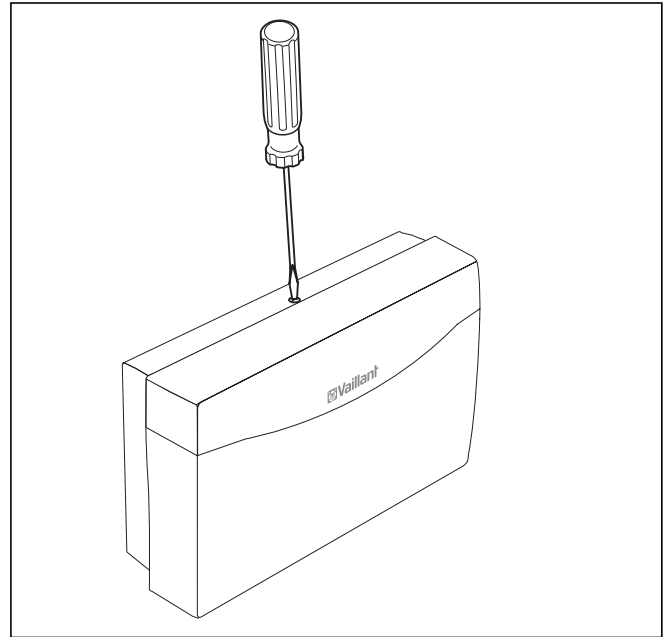

Fig. 4.1 Opening the casing
- Mark the two fixing points at a suitable position in accordance with the fixing openings (1).
- Screw the casing cover in position in accordance with Fig. 4.1.